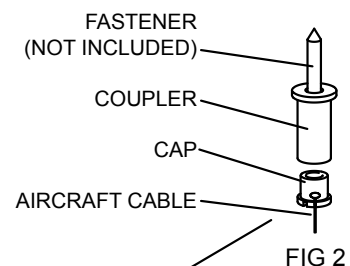

FIG 2
2. Pass the aircraft cables through the caps (see fig 2)